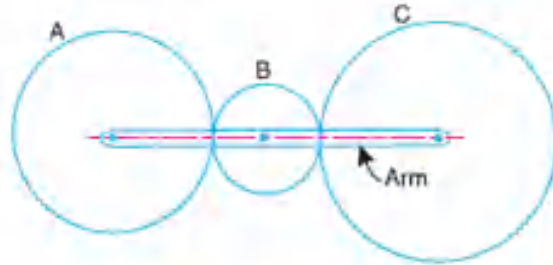

Fig. 5
- b) In an epicyclic gear train as shown in Fig. 5, the number of teeth on the wheels A, B and C are 36, 18 and 50 respectively. If the arm rotates at 300 rpm clockwise, find 1. Speed of wheel C when A is fixed. 2. Speed of wheel A when C is fixed. [6M]